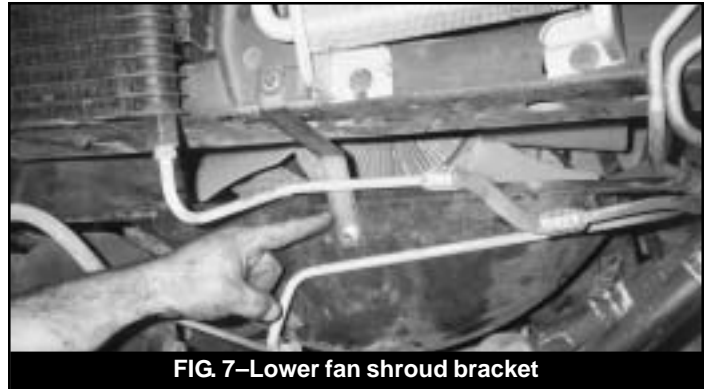

FIG. 7—Lower fan shroud bracket
- Attach the lower fan shroud relocation bracket to the core support using the existing bolt that secures the cross member in the center of the support (Fig. 7).